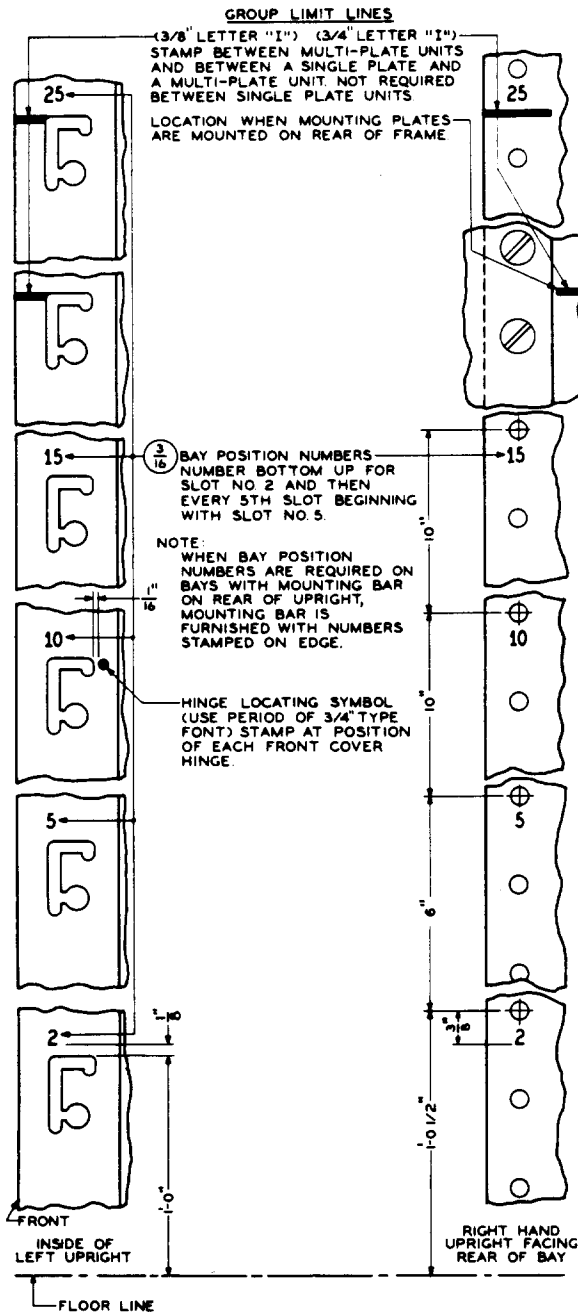

Fig. 19 — Frame Uprights on Box-type Frames — Hinge-locating Symbol and Bay (Mounting Plate) Position Numbers
2.30 *A hinge-locating symbol*, indicating the position of each front cover hinge, shall be stamped on the inside of the left upright of every bay. The period of the 3/4-inch characters shall be used and located adjacent to and in line with the top of the respective F slots which receive the hinge, as specified on the equipment drawing. (See Fig. 19.)
2.31 *Group limit lines*, when specified on the associated equipment drawing, shall be stamped at the junction of multiplate units or of a multiplate and a single-plate unit as follows. (See Fig. 19, 20, and 23.)
2.32 Bay position numbers (mounting plate position numbers) 2, 5, 10, etc, when specified on the associated equipment drawing, shall be stamped for the lowest mounting plate position (approximately 1 foot 0 inch from the floor) and those positions whose numbers are a multiple of five, as follows. (See Fig. 19 and 22.)